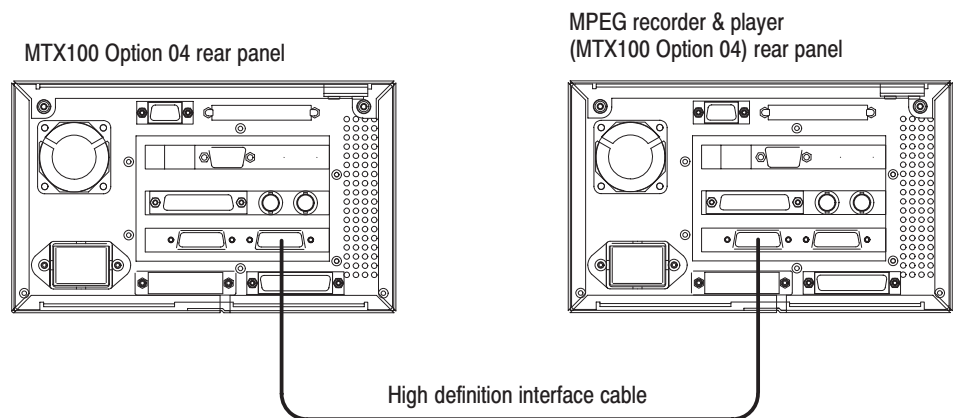

Figure 4-18: Second equipment connection for verifying the DHEI interface
25. Move the high definition interface cable connection from EXPANSION OUT connector to the EXPANSION IN connector on the MTX100 Option 04 as shown in Figure 4-18.
26. Move the high definition cable connection from EXPANSION IN connector to the EXPANSION OUT connector on the MPEG recorder & player as shown in Figure 4-18.